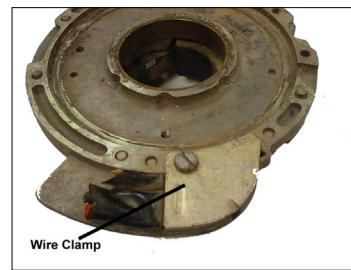

Fig. 2
6. Remove the wire clamp bracket on the bottom of the Stator Plate. (Fig. 2)